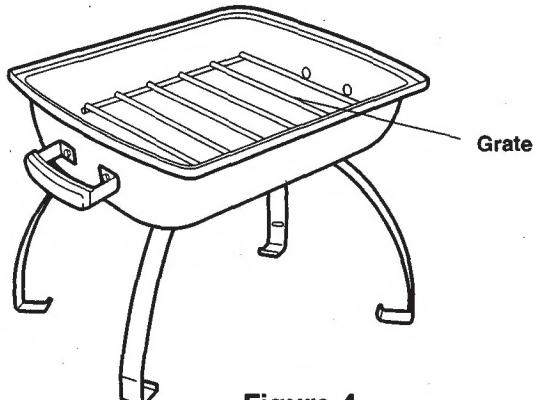

Figure 4
4. Rest grate in firebox. (**Figure 4**).